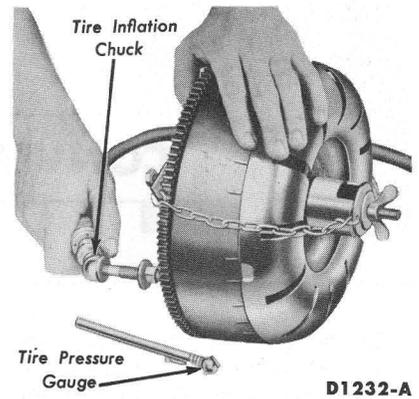

FIG. 7—Leak Checking Tool Installation
1. Place the tool (Fig. 7, Part 6-2) on the rear servo piston rod so that the two forks straddle the band apply lever. The inner fork must engage the flat on the servo piston rod. The outer fork must be inserted between the rod seat (half-ball) and the adjusting nut. This fork provides a ¼-inch spacer between the rod seat and the adjusting nut.
3. Introduce air pressure into the converter housing. Check the pressure with a tire gauge and adjust it to 20 psi (Fig. 7).